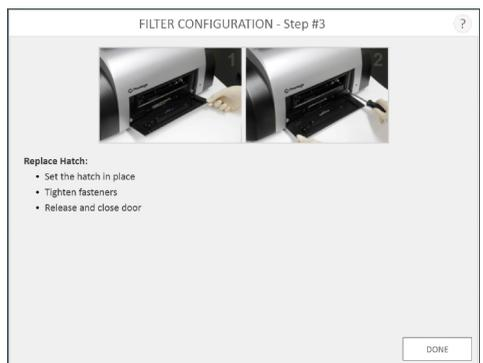

Figure 91. Replacing the hatch door.
1. To add a custom fluorescence excitation module, hold down the plate door, and using the Phillips-Head Screwdriver, unscrew the two screws at the bottom sides of the door (Figure 91).
2. Next pull the front access door toward you to remove the door (Figure 91).
3. Place the Aperture Plate with the corresponding Aperture loaded with metal pins up and toward the back of the plate, exactly as indicated in Figure 91. Place the Aperture in the front position of the Aperture Plate, with the silver screws facing upright, exactly as indicated in Figures 95 and 96.